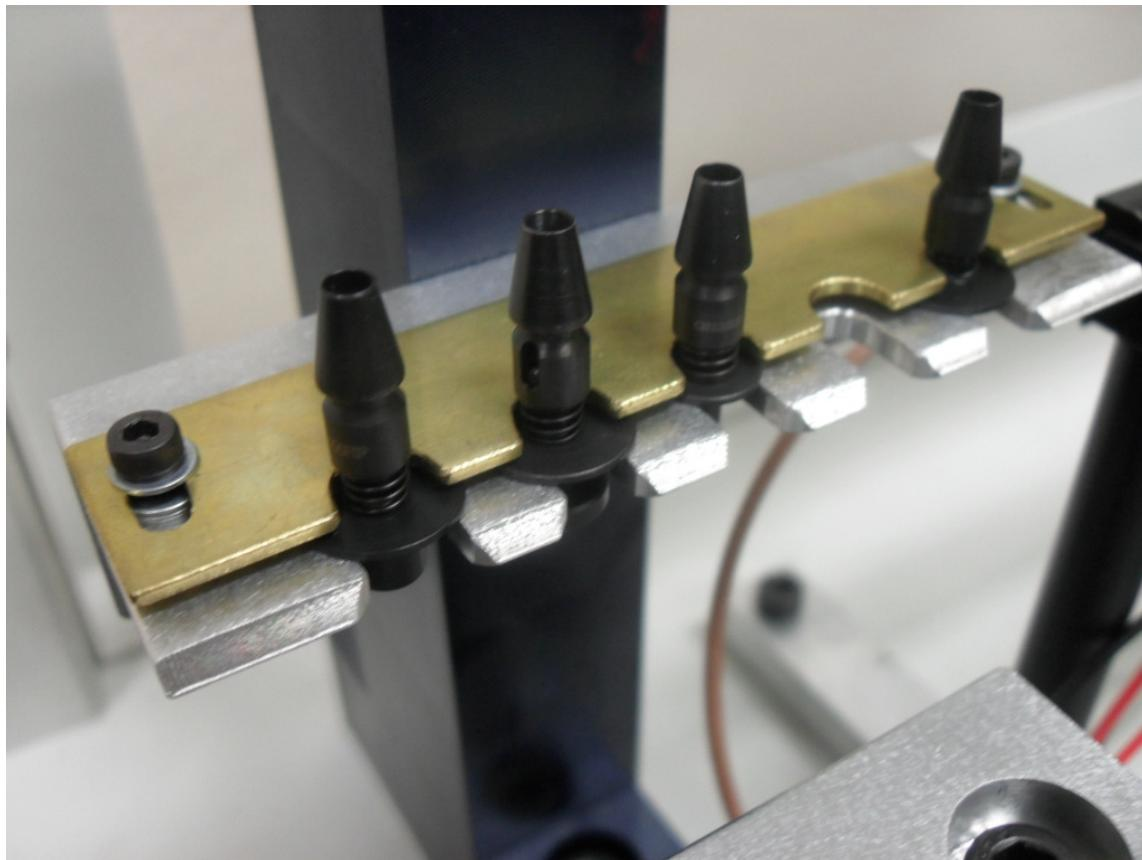

Figure 7.1: The Nozzle Hanger
1. Make sure that the nozzle is installed on the nozzle hanger. This can be done by sliding the nozzle horizontally into the hanger until it securely fastened, with the nozzle disc resting between the two holding plates, as in Figure 7.1.